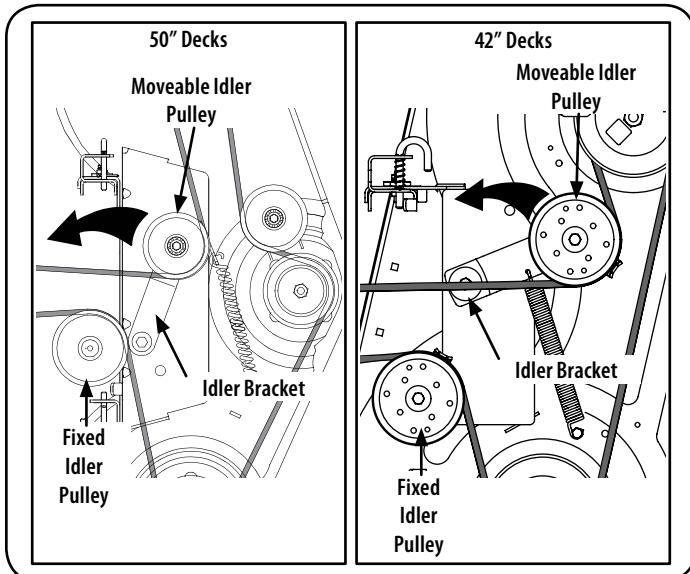

Figure 25
- Working from the middle of the riding mower, pivot the idler bracket and movable idler pulley rearward away from the backside of the 'V' belt just far enough to lift the belt up and over the idler pulley. See Figure 25.